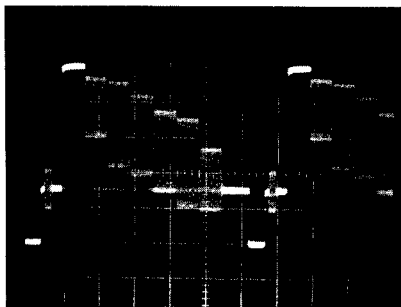

Fig. 26
- Adjust the signal on TP454 to 1.0 ± 0.05 Vp-p (when terminated with 75 ohm or to 2.0 ± 0.1 Vp-p when unterminated) with R337 in the luminance section of the PV01. (Fig. 26)